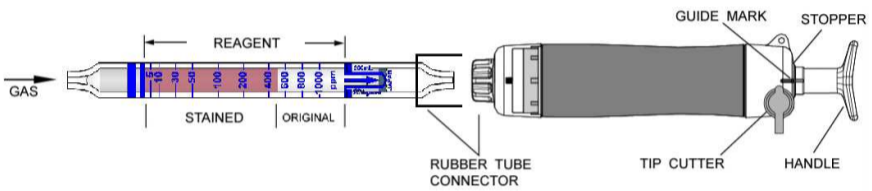

Fig.1
- ① Break both ends of the detector tube.
- ② Insert the detector tube into the aspirating pump securely as shown in Fig.1. (Arrow mark shall point to the pump.)
- ③ Align the guide marks on the shaft and stopper of the aspirating pump.
- ④ Pull the pump handle at a full stroke until it locks and wait for 2 minutes or until the completion of sampling is confirmed with the flow indicator of the pump. (See descriptions about the flow indicator in the instruction manual of the pump.)
- ⑤ Push back the handle without removing the detector tube from the rubber tube connector so that air in the pump will be discharged perfectly. Then repeat the steps ③ ~ ④ once more.
- ⑥ On completion of sampling, read the scale at the maximum point of the stained layer.